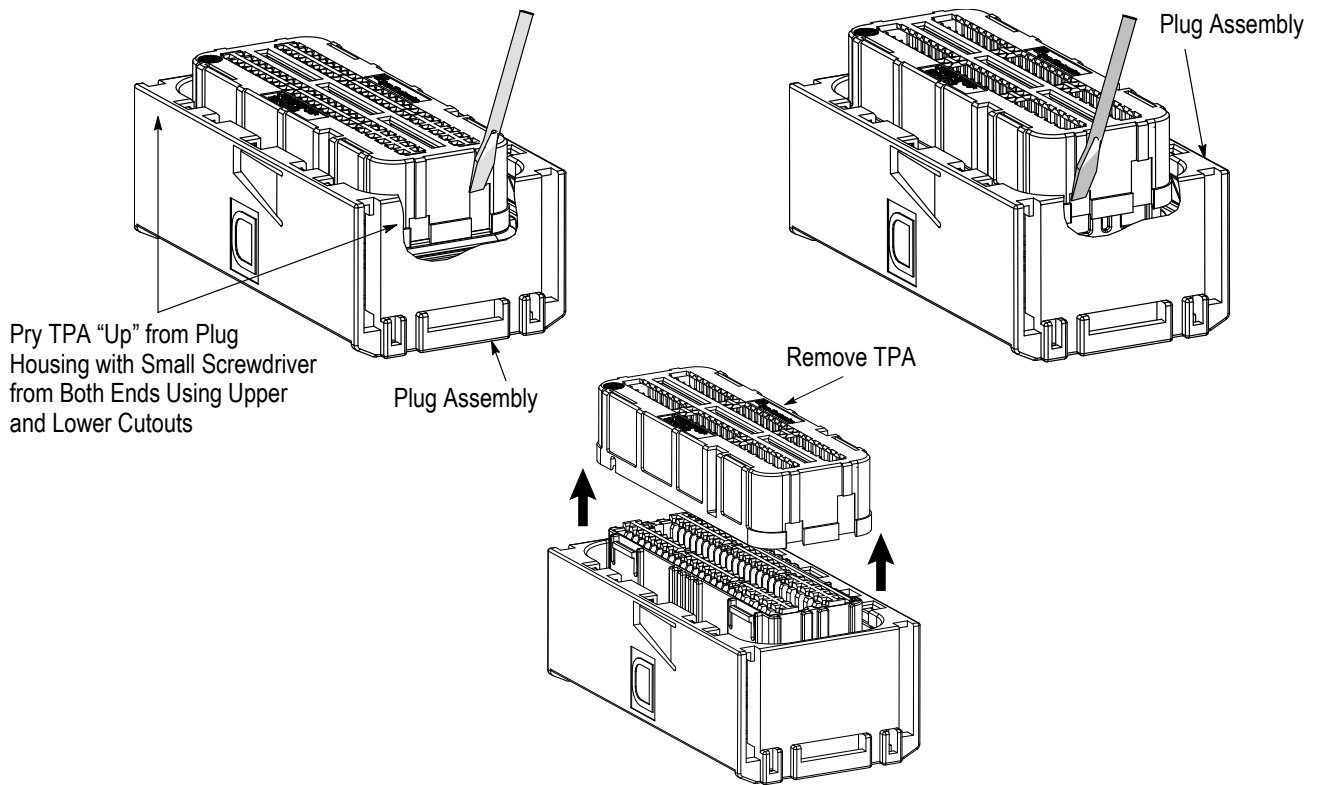

Figure 9
- Remove the TPA from the plug assembly by placing a small screwdriver in the ends and rotating to pry up the TPA from the plug assembly. See Figure 9.